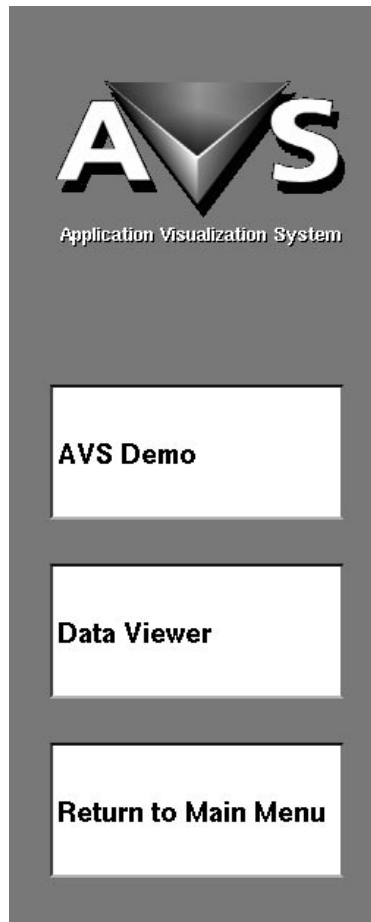

Figure 3-1 Starting the Data Viewer from the Applications Menu
1. From the AVS Applications menu. On the main AVS menu, select **AVS Applications**. This brings up a secondary menu. (See Figure 3-1.) Select **Data Viewer**. This is the usual way to start the Data Viewer.